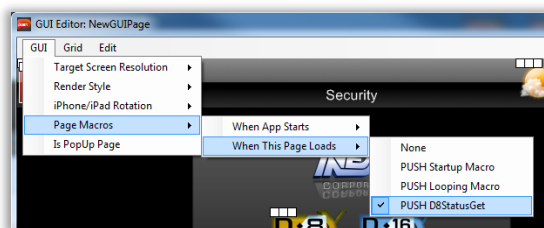

Figure 16 - Set Macro for page load
- Open any page within the GUI Group *Refer to Figure 16*